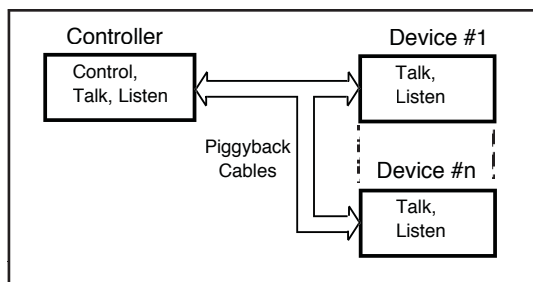

Figure 1 IEEE 488 Bus Concept
The GPIB (HP-IB) concept is shown in Figure 1. Controllers have the ability to send commands, to talk data onto the bus and to listen to data from devices. Devices can have talk and listen capability. Control can be passed from the active controller (Controller-in-charge) to any device with controller capability. One controller in the system is defined as the System Controller (SC) and it is the initial Controller-in-Charge (CIC).